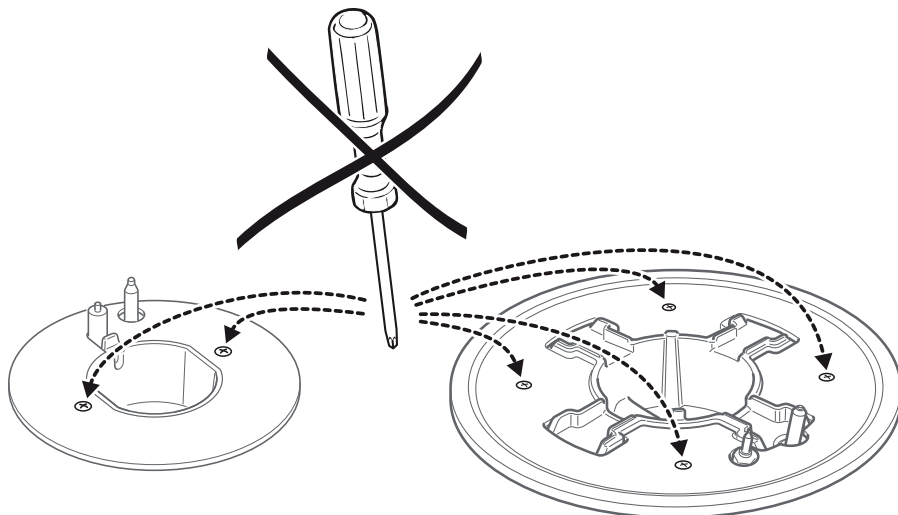

Fig. 7
**NEVER** unscrew the burner plate fixing screws (fig. 7).